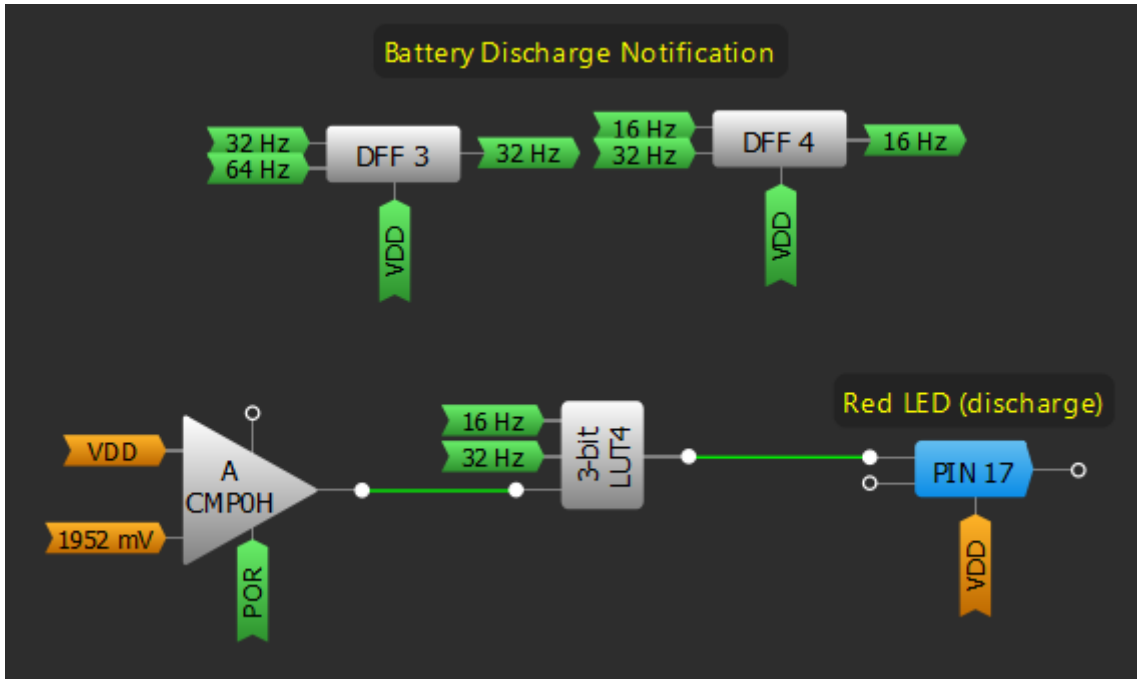

Figure 9 Battery Discharge Notification
- Figure 9 Battery Discharge Notification7
As the lamp is powered by 3 batteries of 1.5 (4.5 V), the device needs a Battery Discharge Notification which helps the user not to forget to change batteries. The configuration can be found in Figure 9. The Analog Comparator CMP0 with 0.5 gain compares VDD and reference voltage. If this voltage is smaller than 1952 mV, it is time to change batteries because the voltage has already decreased to 3.9 V. In this case, the red LED starts blinking with a 25% duty cycle notifying about discharge.